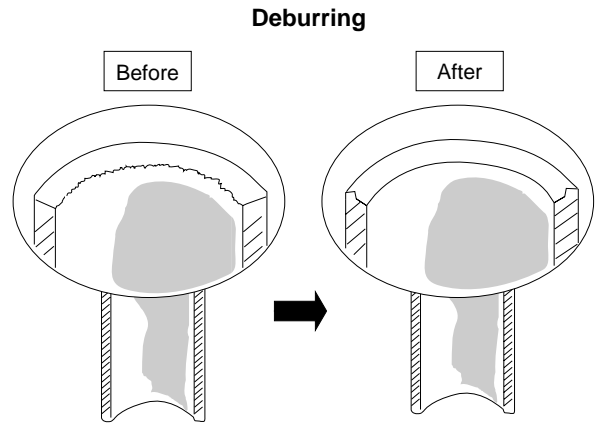

Fig. 42
- Remove burrs at the end of the copper tube with a tube reamer or file. This process is important and should be done carefully to make a good flare. (Fig. 42)